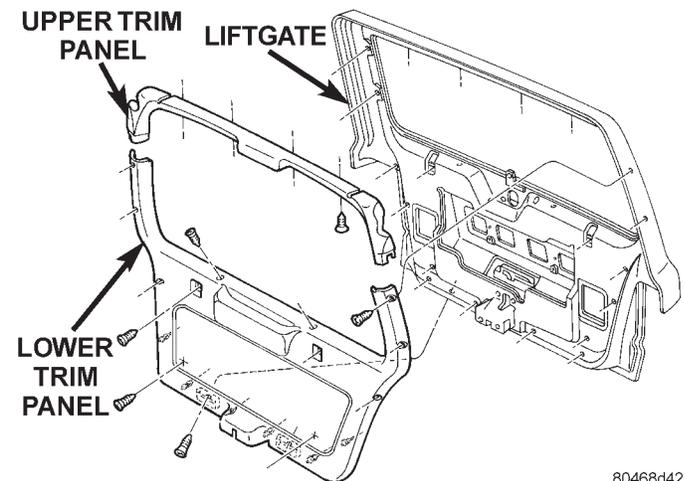

Fig. 3 Liftgate Trim Panel Remove/Install
- (1) Disconnect and isolate the battery negative cable.
- (2) Open the liftgate.
- (3) Remove the screws that secure the liftgate lower trim panel to the liftgate inner panel (Fig. 3).